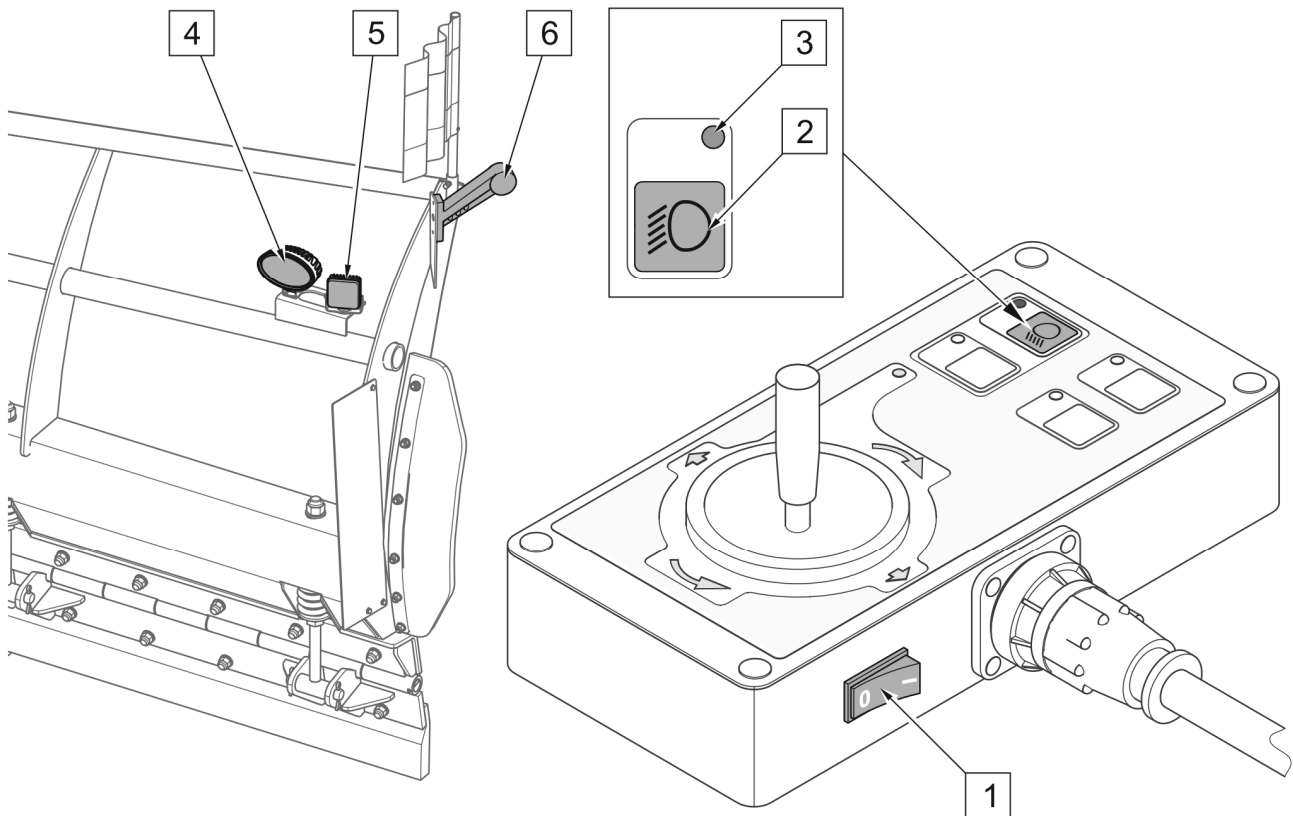

FIG. 4.13 Switch on the lighting (applies to the plough with Power-Pack)
(1) - main panel and clearance lighting switch ; (2) - beacon and work lamp switch; (3) - lighting indicator lamp; (4) - work lamp; (5) - beacon lamp (yellow); (6) - clearance lamp
The snow plough is equipped with clearance lighting, warning beacon and a work lamp (FIG. 4.13). In the plough with Power-Pack supply, the mouldboard marker lamp (6) is switched on when the control panel is activated using the main switch (1). The switch (2) is used to turn the beacon (6) and work light (4) on and off. Activation of the lights with switch (2) is indicated by green light (3). When the switch (2) is pressed again, the beacon and work lamp will be turned off and the lamp (3) will go out.